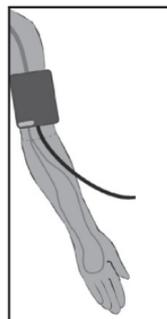

Fig. 3
- When using the unit on the left arm, the air hose runs to the unit through the middle of the crook of the arm so that the 4 cm long artery marking is automatically located centrally above the pulse position (Fig. 3).